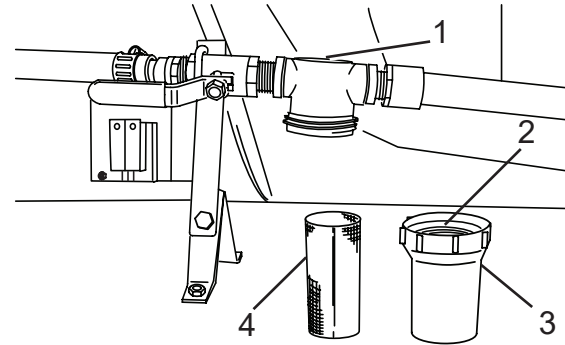

Figure 171
1. Remove (unscrew) the cup (Figure 171, Item 3), and remove the cup and strainer (Figure 171, Item 4) from the strainer head (Figure 171, Item 1).
2. Clean the strainer (Figure 171, Item 4) with clear water. Inspect the strainer. Replace if torn or damaged.
3. Inspect the cup seal (Figure 171, Item 2). Replace if torn or damaged.
4. Install the strainer (Figure 171, Item 4) and cup (Figure 171, Item 3).